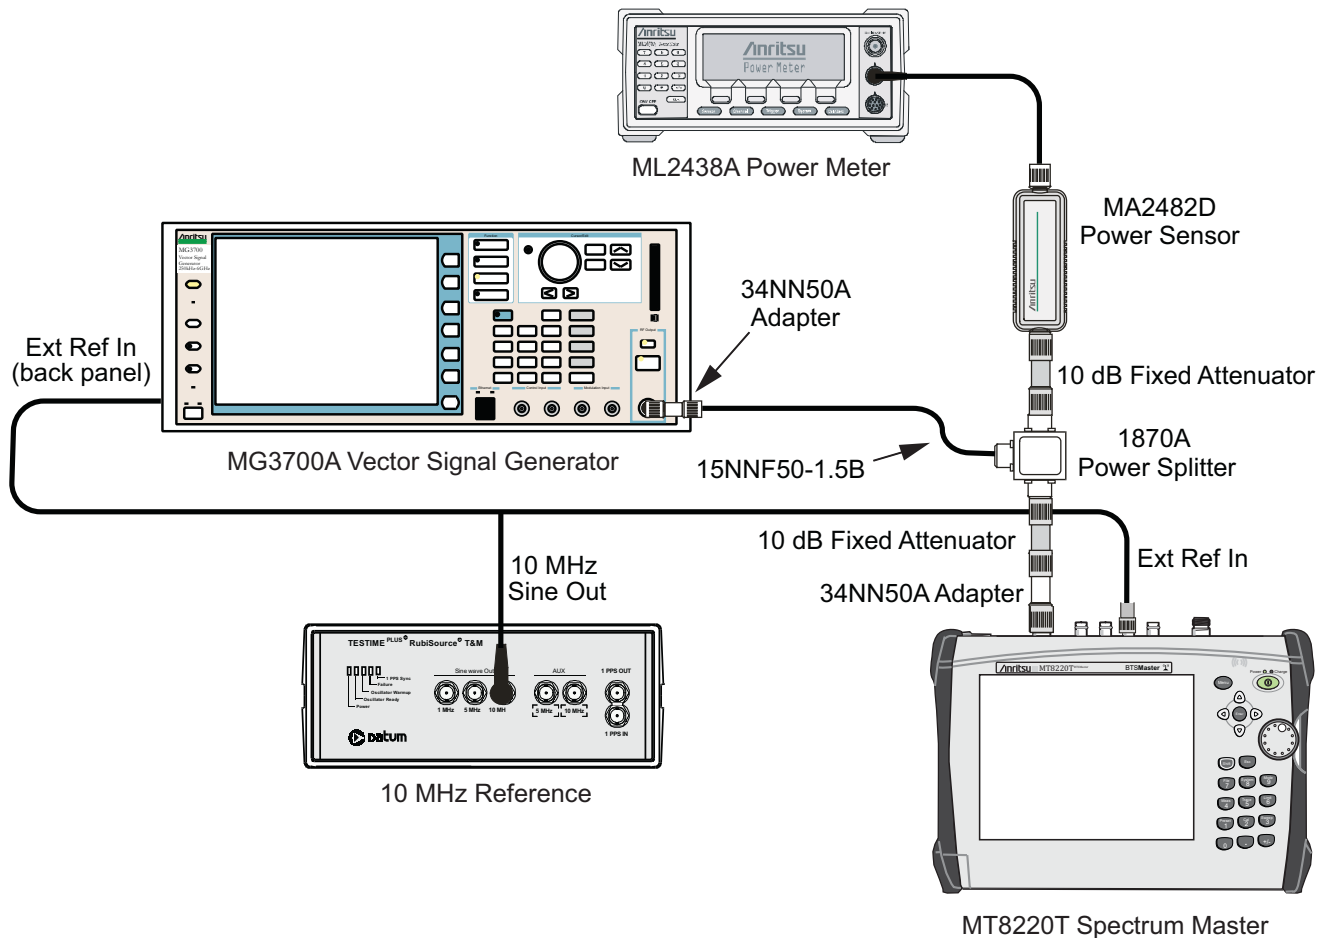

Figure 6-6. LTE Signal Analyzer Verification
4. Connect the Power Sensor, 1870A splitter, 10 dB attenuators (quantity 2), as shown in Figure 6-6.